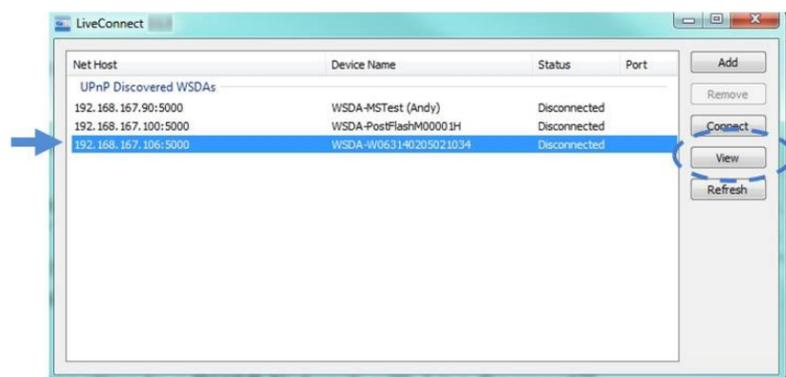

Figure 5 - Gateway Control Panel Access (Live Connect™)
3. To access Control Panel through Live Connect™, highlight the device, and select the View button (*Figure 5 - Gateway Control Panel Access (Live Connect™)*).